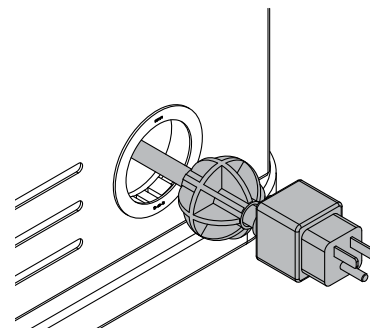

Figure 3F
8. Route the power cord out the side grommet. **Figure 3F.**